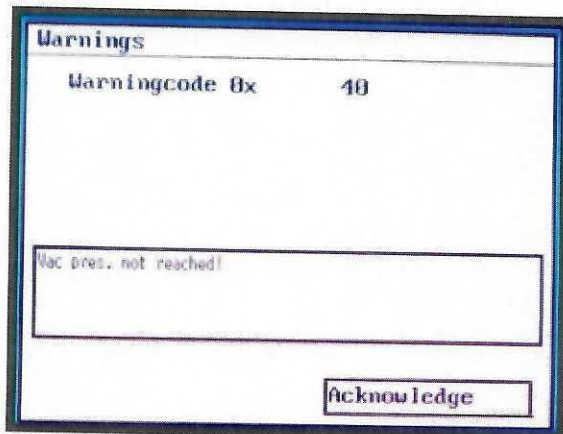

Figure 16
If the value is set to "warn", a warning code (40) is given, if it fails to reach the target vacuum level within the given time. The warning can be acknowledged (Figure 16), in which case the mixing process is continued.